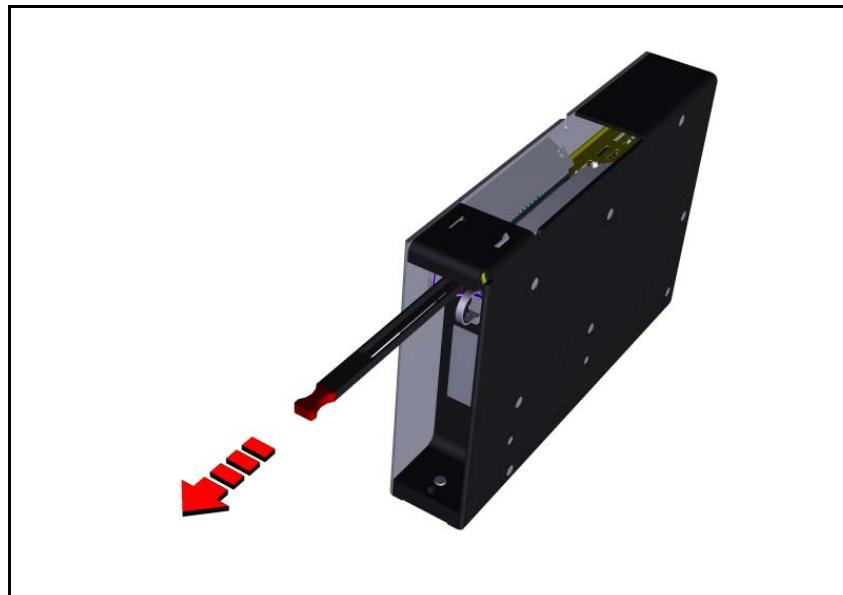

Figure 16-6. Removing Linescan camera glass.
1. Remove dropped components from the Linescan camera glass by withdrawing it at the front of the camera box, see Figure 16-6.